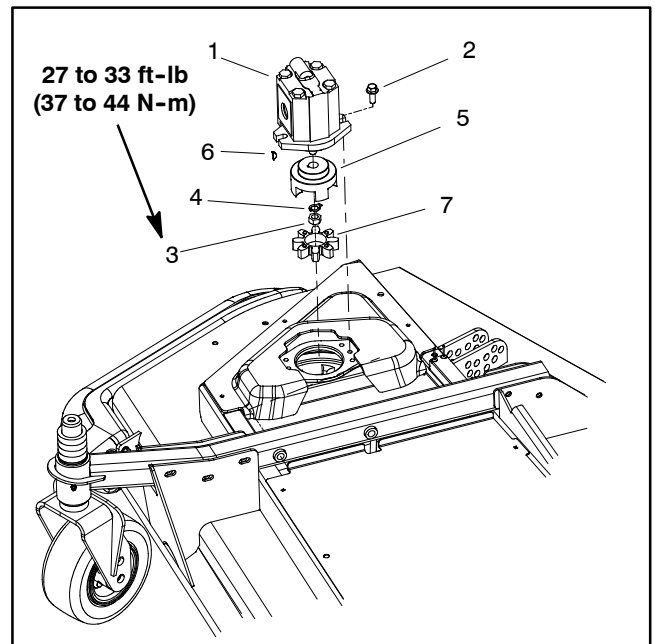

Figure 92
4. Remove two (2) flange head screws that secure hydraulic motor to motor mount (Fig. 92).
4. Secure motor to cutting deck with two (2) flange head screws (Fig. 92).